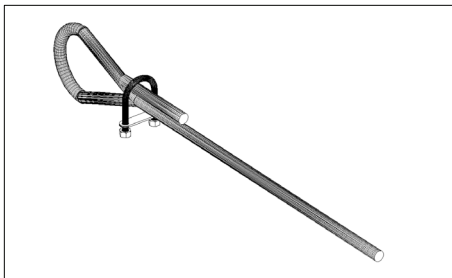

figure 5
3. Route 1 end of the lift cable through the chain link welded to the brush head assembly upright. Loop the loose end around and secure it with a cable clamp (figure 5).
INSTALL CABLE CLAMPS AS SHOWN IN FIGURE 5; otherwise; the cable could slip, possibly damaging the sweeper or injuring the operator.